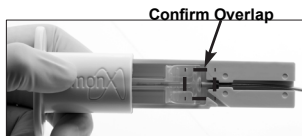

Figure 8
- e. Slowly release the thumb lever of the funnel cartridge, ensuring that it covers the end of the EDC housing (see Figure 8).